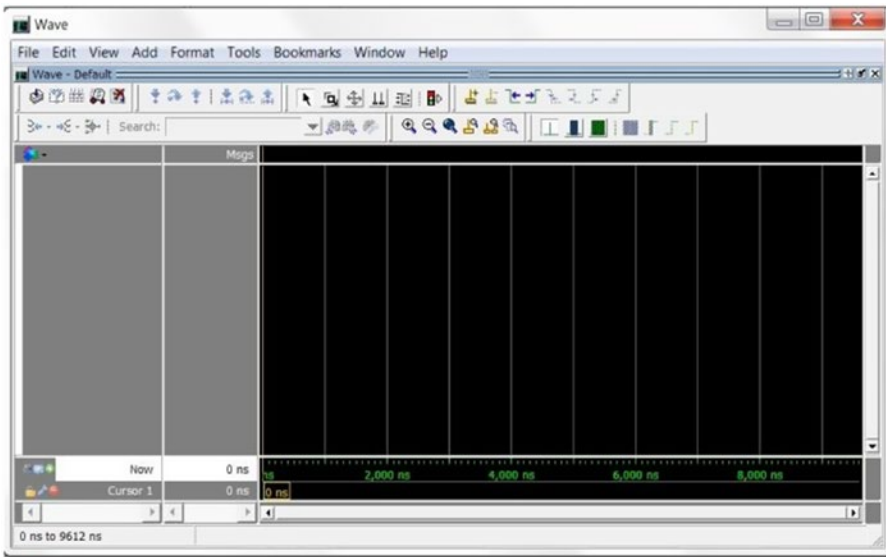

Figure 11-14. ModelSim-AlteraWave window
3. ModelSim Altera Starter Edition main window (Figure 11-3) and wave window (Figure 11-4) will bring up. The ModelSim transcript Window should show Error:0, Warnings: 0 in the last line of the Transcript window (Figure 11-14)